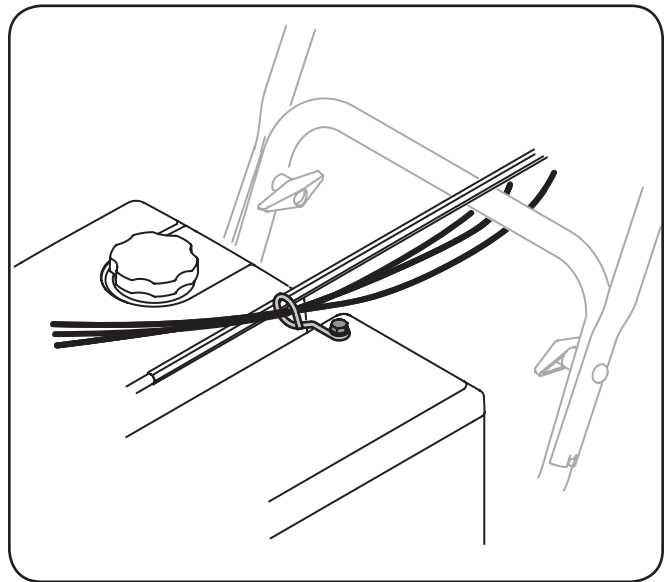

Figure 3-9
7. Check that the cables are properly routed through the cable guide on top of the engine. See Figure 3-9.